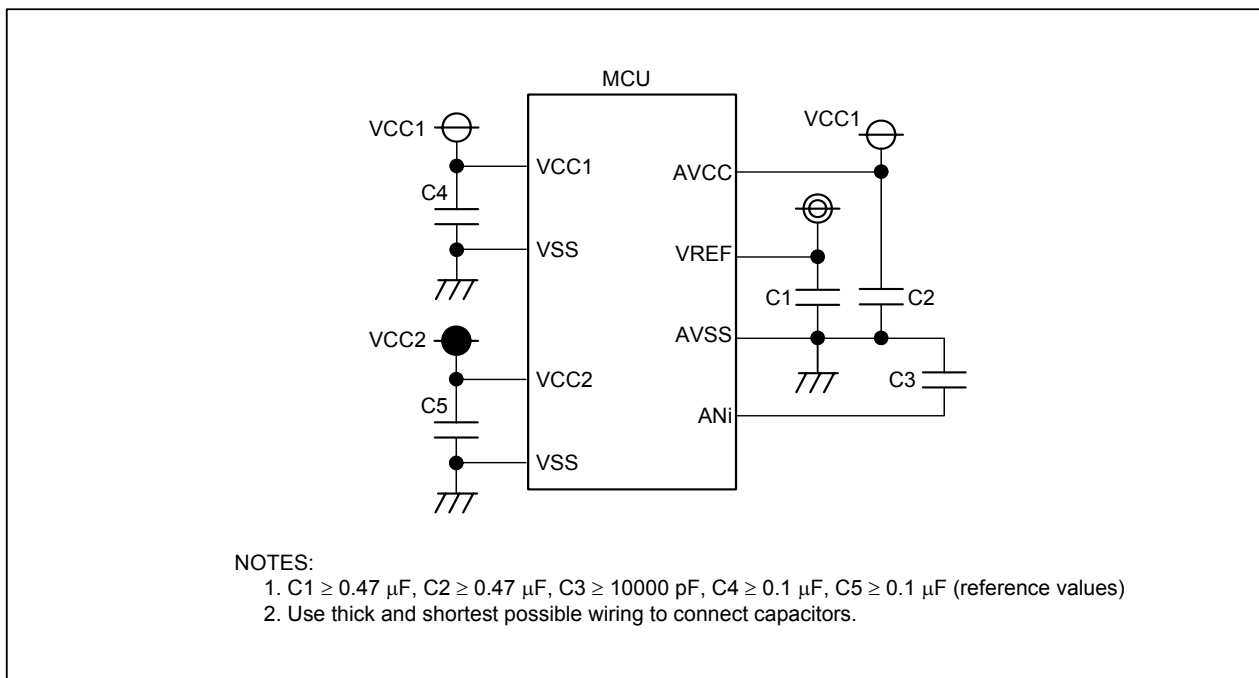

Figure 28.5 Individual Pin Handling
- To prevent latch-up and malfunction due to noise and also to minimize a conversion error, insert a capacitor between the AVSS pin and each of the following pins: the AVCC pin, VREF pin, or analog input pin AN_i_j (i = none, 0, 2, 15; j = 0 to 7). Insert a capacitor between the VCC pin and the VSS pin as well. Figure 28.5 shows an example of individual pin handling.